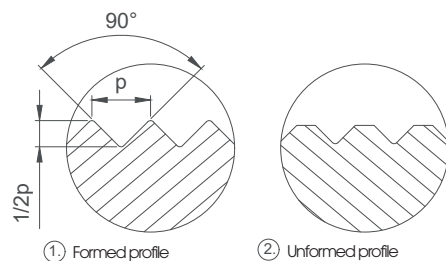

Fig. 9: Different profile pattern
The profile depth is set approx. 1 mm behind the chamfer of the workpiece in the X direction and corresponds to approximately the half pitch p (with 90° flank angle), (cf. Fig. 9). After reaching the limit depth, the dwell time of the tool should be 3–10 revolutions of the workpiece. Then move in the Z-direction until the desired knurl width is achieved. Disengage the tool while the spindle is rotating.
The correct profile depth has been reached when the profile is knurled completely (Fig. 9, ref. 1). A new setting takes place when the profile is not completely formed (Fig. 9, ref. 2). Re-adjustment in the profile is possible, because the knurling wheels catch in the existing profile. If the profile threads are uneven, a correction of the cutting head can be carried out (refer to chapter 6 for this purpose).